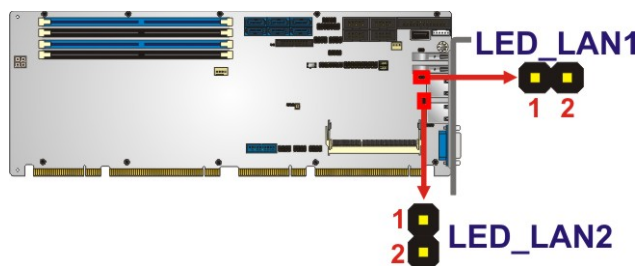

Figure 3-17: LAN LED Connector Locations
- CN Location:** See Figure 3-17